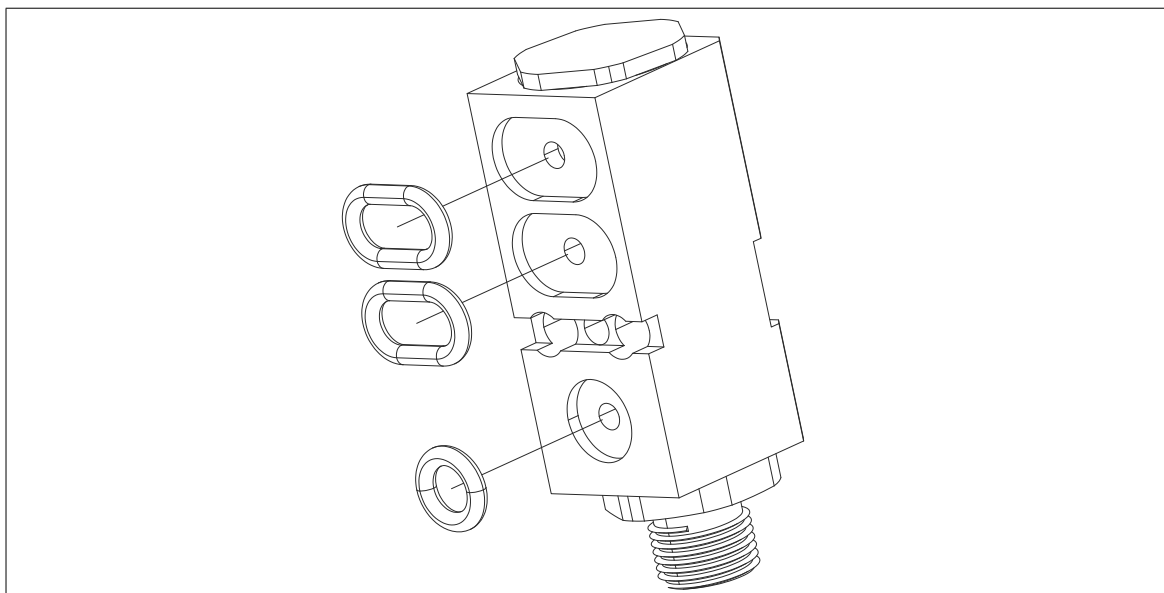

Figure 4: Insert O-rings
5. Check the supplied O-rings for completeness and correct fit (see Figure 4).